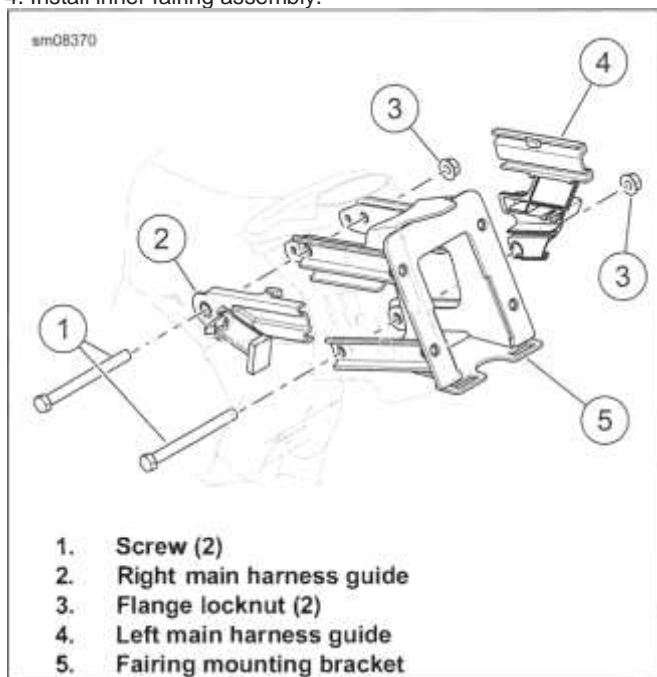

Figure 3-121. Fairing Mounting Bracket
3. See Figure 3-121. Remove locknuts (3) and screws (1).
1. See Figure 3-121. Position fairing mounting bracket (5).
2. Position left (4) and right (2) main harness guides. Install screws (1) from right side. Install flange locknuts (3). Tighten.